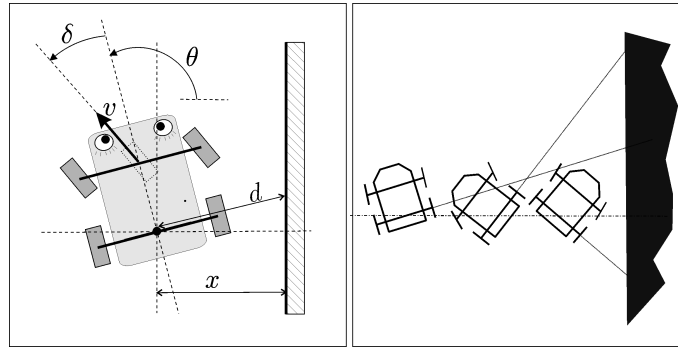

Figure 6.9: The controller imagines a simpler world than reality, with a straight vertical wall
3) We would like the car to move with a constant speed along the road. Of course, it is out of the question to involve the shape of the road in the controller, since it is unknown. Moreover, the position and orientation variables of the car are not measured (in other words we have no compass or GPS). These quantities however are often unnecessary in order to reach the given objective, which is following the road. Indeed, are we not ourselves capable of driving a car on a road without having a local map, without knowing where we are and where North is? What we are interested in when driving a car is the relative position of the car with respect to the road. The world as seen by the controller is represented on Figure 6.9. In this world, the car moves laterally, like in a computer game, and the edge of the road remains fixed. This world has to be such that the model used by the controller has state variables describing this relative position of the car with respect to the road and that the constancy of the state variables of this model corresponds to a real situation in which the car follows the road with a constant speed. We need to imagine an ideal world for the controller in which the associated model admits an operating point which corresponds to the desired behavior of our real system. For this, we will assume that our car drives at a distance  $\bar{x}$  of the edge. This model has to have the same inputs  $\mathbf{u}$  and outputs  $\mathbf{y}$  as the real system, more precisely two inputs (the acceleration of the front wheels  $\dot{v}$  and the angular speed of the steering wheel  $\dot{\delta}$ ) and three outputs (the distance  $d$  of the center of the rear axle to the edge of the road, the speed  $v$  of the front wheels and the angle  $\delta$  of the steering wheel). Given the fact that only the relative position of the car is of interest to us, our model must only contain four state variables:  $x, \theta, v, \delta$ , as represented on the figure. One must be careful though, since the meaning of the variable  $x$  has changed since the